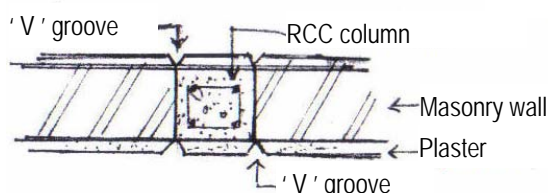

Fig 20 - Plan at column & masonry joint
- Made sure that a surface V groove is made in plaster surfaces along all joints between concrete work and masonry work, in order to prevent the appearance of hairline cracks on plaster surfaces along such joints (See fig. 20)
- Made sure that tiles are not placed across joints between masonry and concrete columns, by providing a continuous 'V' groove along the joint to prevent hairline cracks from developing on the tile surfaces (See fig. 20 for plaster work)